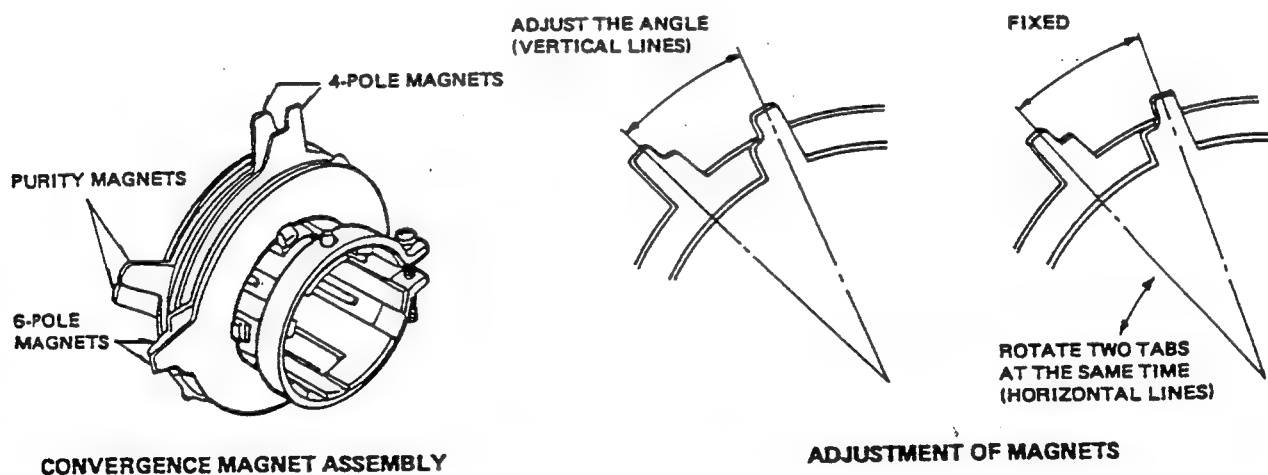

Fig. 21.
- (f) Rotate and spread the tabs of the purity magnet (see Fig.21.) around the neck of the picture tube until the green belt is in centre of the screen. At the same time, centre the raster vertically.
- (c) Adjust two tabs of the 4 Pole Magnets to change the angle between them (see Fig.21.) and superimpose red and blue vertical lines in the centre area of the picture screen. (See Fig.22.)
- (d) Turn both tabs of the 4 Pole Magnets to change the angle to superimpose red and blue horizontal lines at the centre of screen (See Fig.21.)